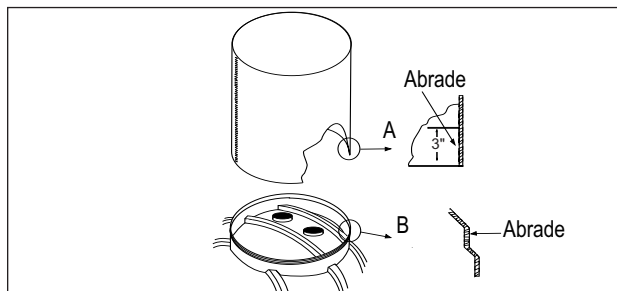

FIGURE 16-4
16.2.5.1. Abrade the entire circumference of the inside surface of the containment sump body a distance of at least 3 inches up from the point where the containment sump body meets the collar. (See FIGURE 16-4, A.)
16.2.5.2. Abrade the entire circumference of the outside surface of the collar lip. (See FIGURE 16-4, B.)